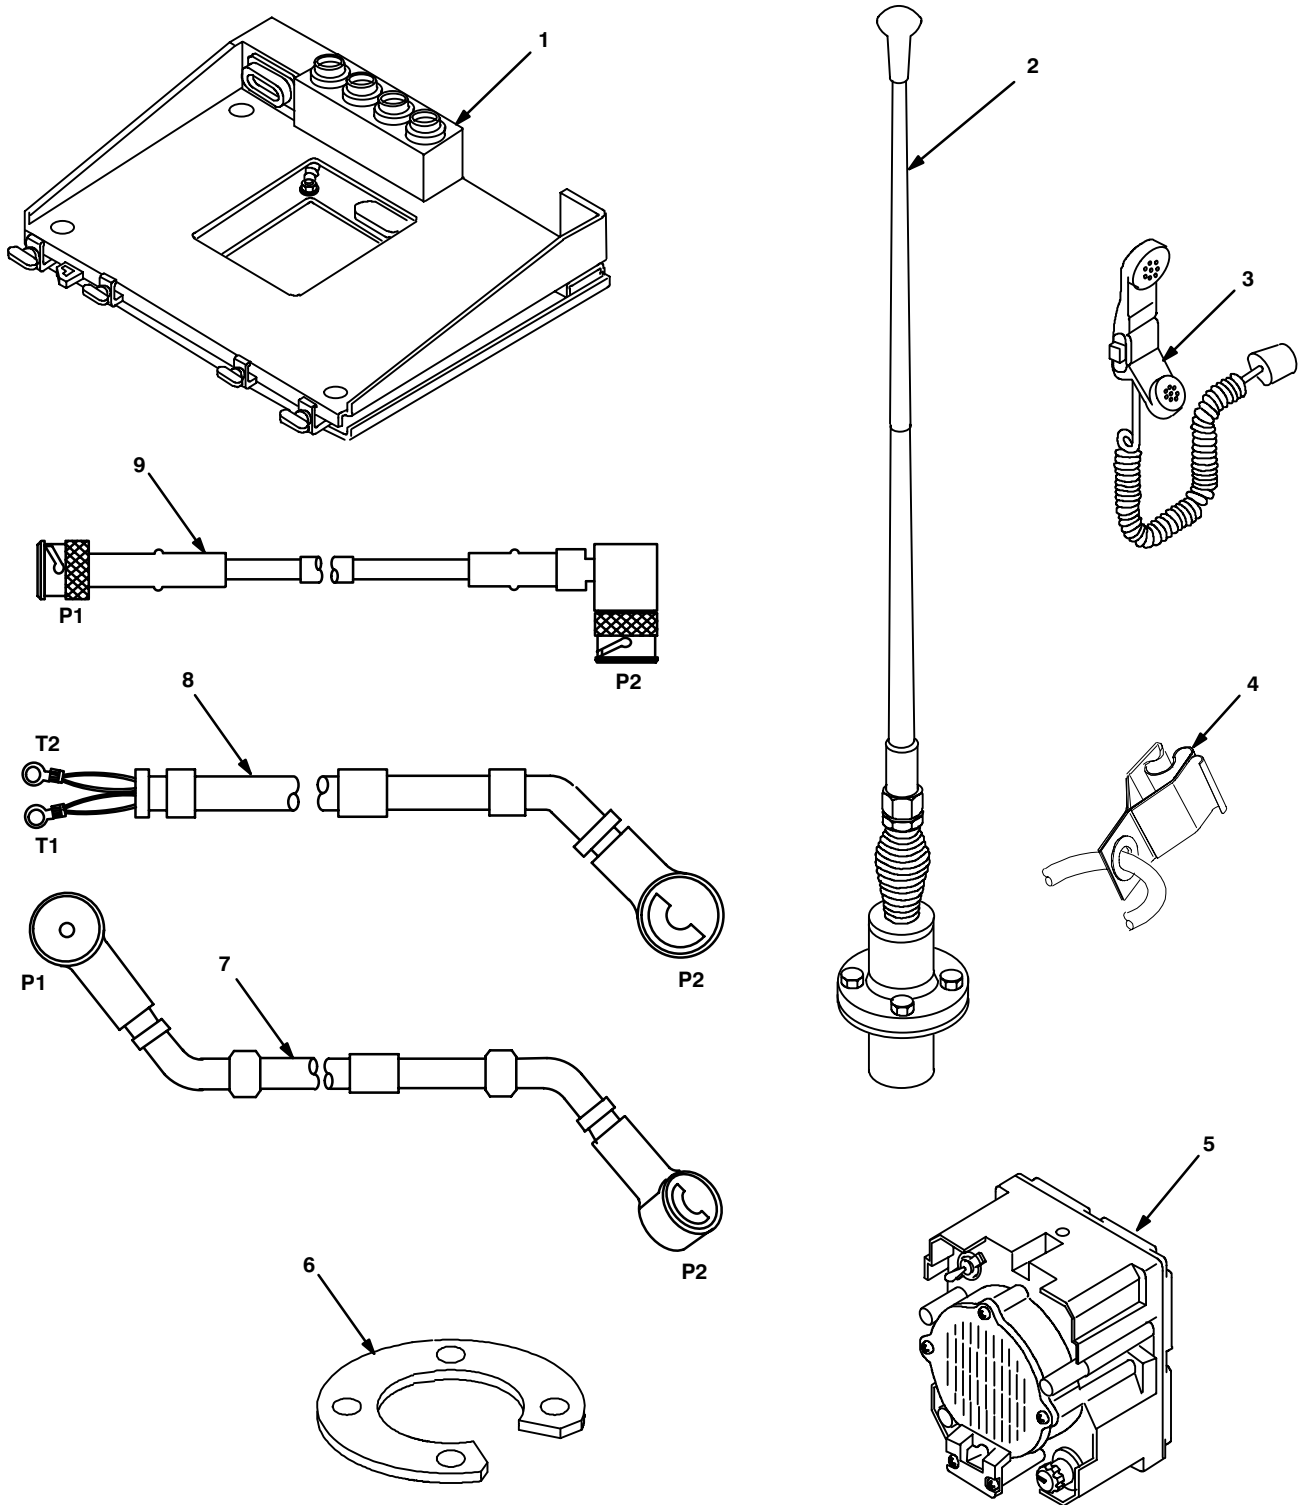
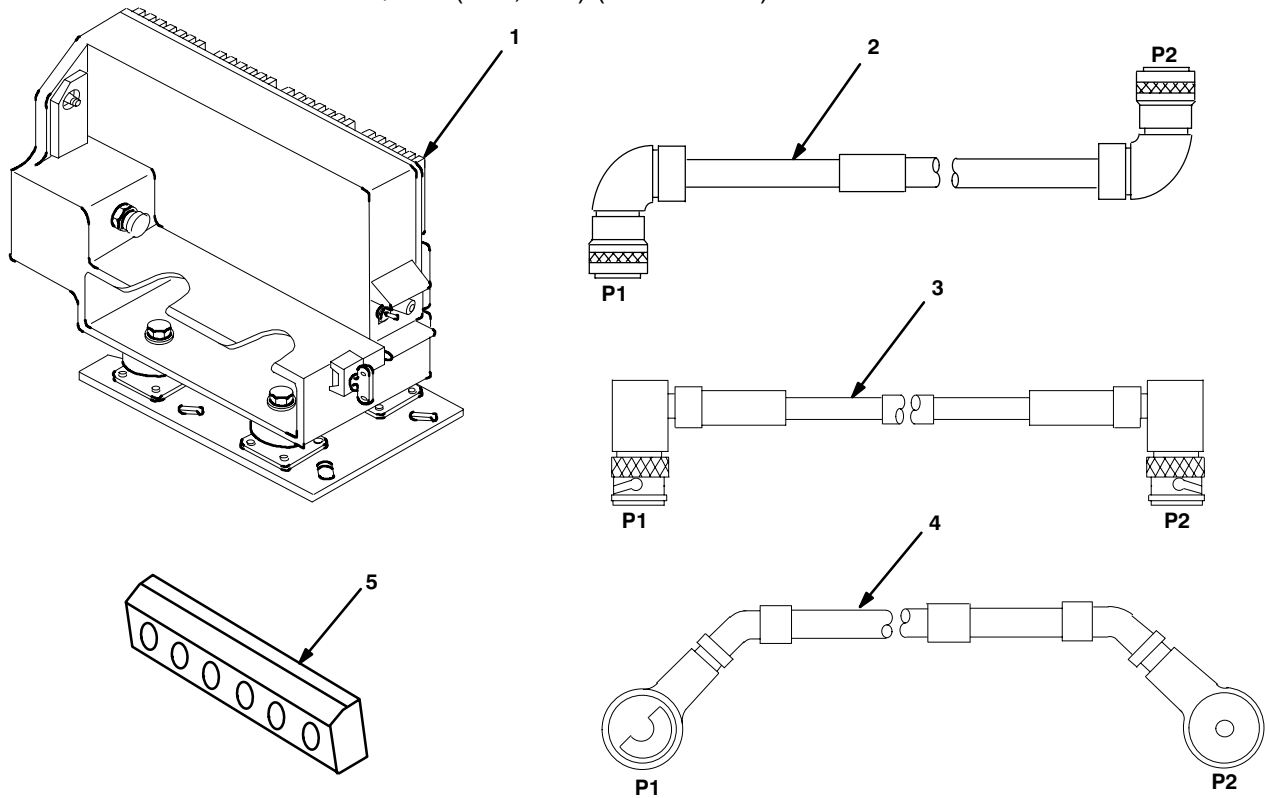

Figure 4-1. MK Illustrated Parts List
Figure 4-2. Illustrated Parts List for Table 4-2
4.3.1 Items Supplied in MK and/or Required for Installation. Use Table 4-1 and figure 4-1 to identify and inventory MK parts supplied to install Radio Set AN/VRC-89/91/92 series. Refer to Table 4-2 and figure 4-2 to identify additional items required to install Radio Set AN/VRC-92 Series.